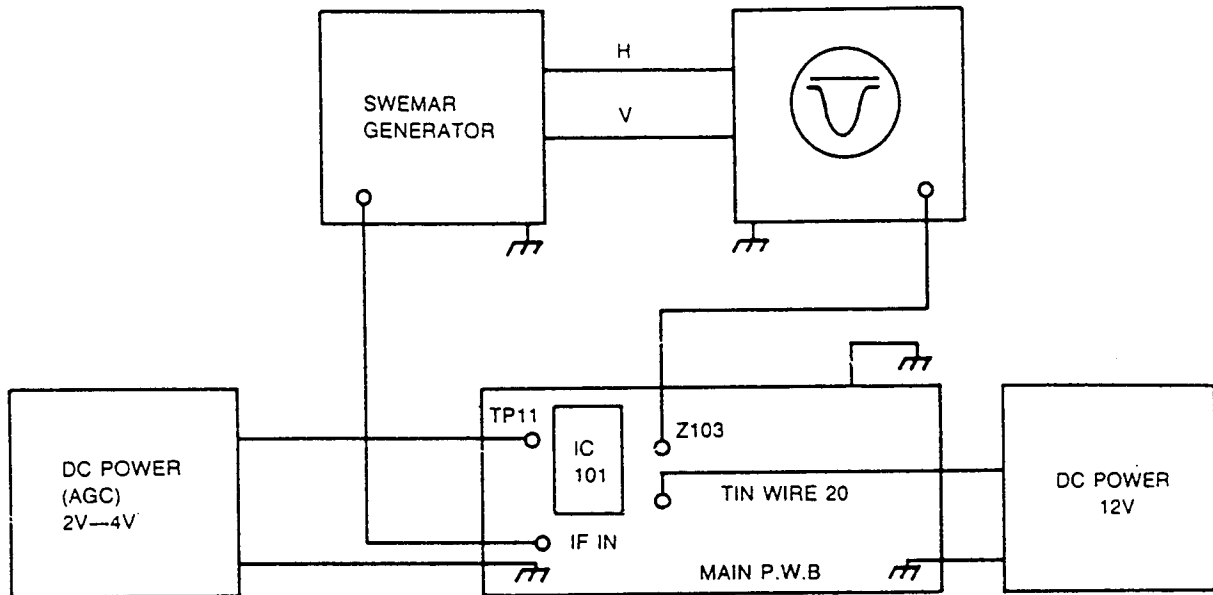

Figure 1 : Connection Diagram for VIF and AFT alignment
1. Solder a thin insulated wire to Pin 23 on IC SAA 1250 (see Fig. 1)
1. Connect test equipment to the main board as shown in Figure 1 and turn power on.
CONVERGENCE AND PURITY HAVE BEEN FACTORY ALIGNED. DO NOT ATTEMPT TO TAMPER WITH THESE ALIGNMENTS. HOWEVER, THE EFFECTS OF ADJACENT RECEIVER COMPONENTS OR REPLACEMENT OF PICTURE TUBE OR DEFLECTION YOKE MAY REQUIRE THE NEED TO READJUST PURITY AND CONVERGENCE. CONVERGENCE MAGNET ASSEMBLY AND RUBBER WEDGES NEED MECHANICAL POSITIONING FOLLOWING THE FIGURE 1. BEFORE ATTEMPTING ANY CONVERGENCE ADJUSTMENT THIS RECEIVER SHOULD BE OPERATED FOR AT LEAST FIFTEEN MINUTES. IF ADJUSTMENT IS REQUIRED THE ADJUSTMENTS SHOULD BE MADE IN THE FOLLOWING SEQUENCE.
6. Rotate and spread the tabs of the purity magnet (See Fig. 1) around the neck of the picture tube until the green bar is in the centre of the screen. At the same time, centre the raster vertically.